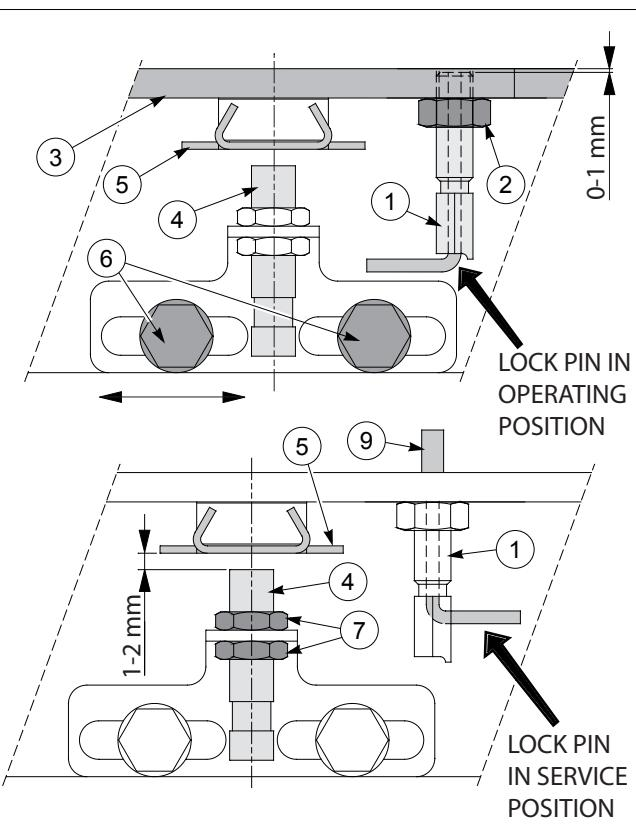
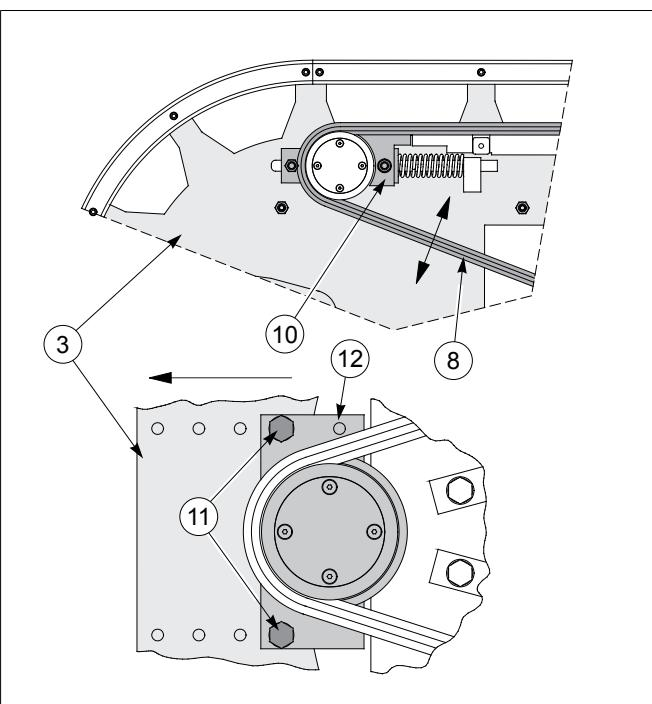

fig. 17 Chain lock pin and sensor position
fig. 18 Chain stretch compensation
- See fig. 17.
7. If necessary, see fig. 17 to readjust chain stretch sensor position.
- See fig. 17 and fig. 18.